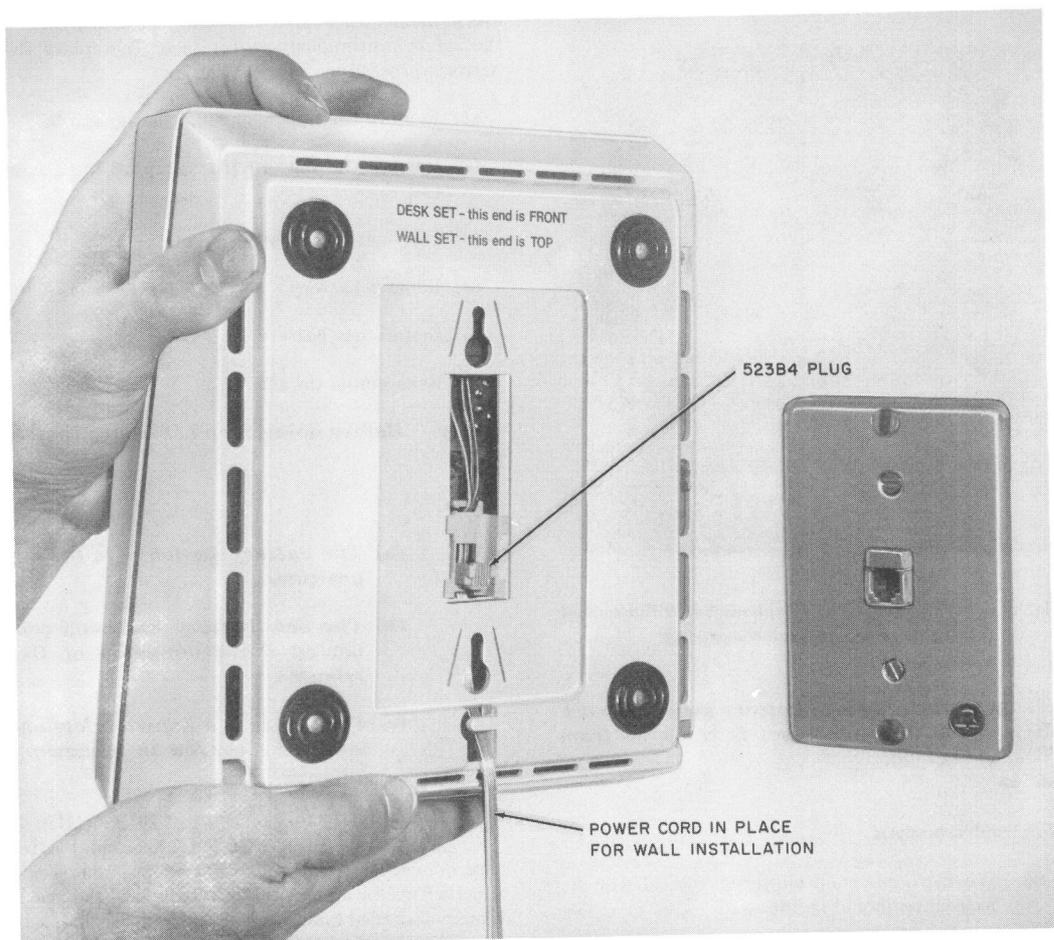

Fig. 12—2960A01M (MD) Wall Set and 630A4 Connecting Block
- (1) Remove the lower housing (paragraph 3.17).
- (2) Remove the 523B4 plug from its stored position and snap both sides of the plug into rectangular slot in the bottom of the lower housing. Snap plug in from the outside so that the word **TOP** is properly oriented in the housing (Fig. 12). The plug should slide freely in the slot.
- (3) Insert the other end of the 523B4 plug into the jack position designated **PHONE** on the power supply board.
- (4) Insert the power cord up through the cord opening below the plastic retainer tab in the bottom of the lower housing (Fig. 12).
- (6) Place the lower housing on the chassis according to the instructions on the bottom (Fig. 12).
- (7) Engage the four captive screws to fasten the lower housing to the bottom of the chassis.
- (8) Remove the station number card retainer and station number card from the upper housing.
- (9) Disengage the captive screw from the chassis and lift out the concealed handset hook and screw from the cavity in the upper housing.
- (10) Completely remove the captive screw from one side of the handset hook and insert it into the other side.
- (12) Replace the station number card and card retainer.
- (13) The converted wall set is intended to plug into and secure to a 630A4 connecting block (Fig. 12 and 16B).